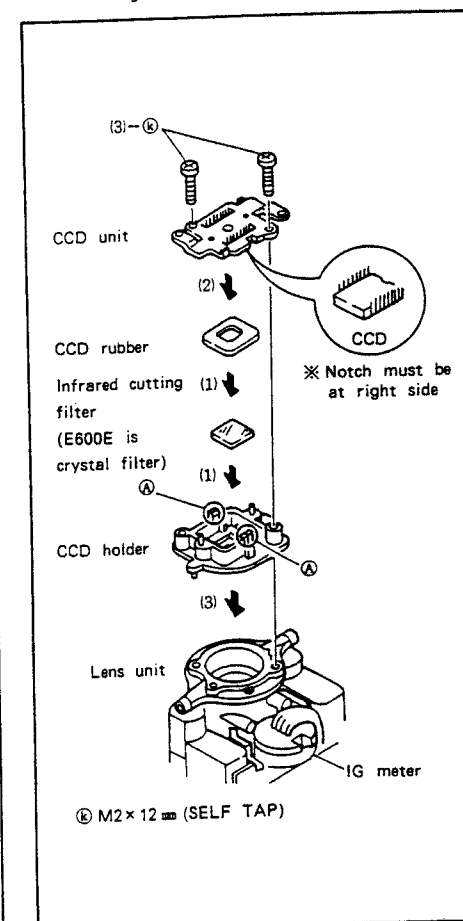

Fig. II-18
- (1) Install the infrared cutting filter (E600E is crystal filter) and then the CCD rubber on the CCD holder.
- (2) Install the CCD unit on the CCD holder.
* Notes: 1. Check the directivity referring to the Fig. II-18.
2. Push the unit until the two hooks (A) are completely hooked.
- (3) Install the CCD holder on the lens unit, and fix it with two screw (k) s.
* Note: Check the directivity referring to the Fig. II-18.